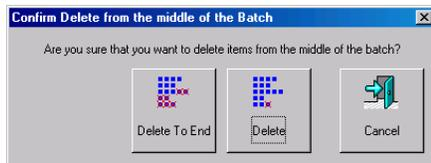

FIGURE 15: Confirm delete
- If the **Allow Delete** parameter is set to **Delete To End Of Batch**, you can also choose a document thumbnail and delete all the documents scanned after the selected document. When the **Delete** button is pressed, the Confirm Delete window (Figure 15) will appear.